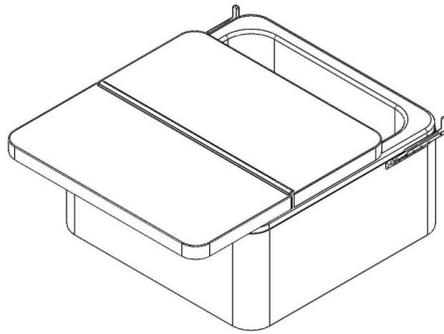

Figure 10
10. Slide the spa cover away from the Cover Valet about 3 or 4 feet. See Fig 10.